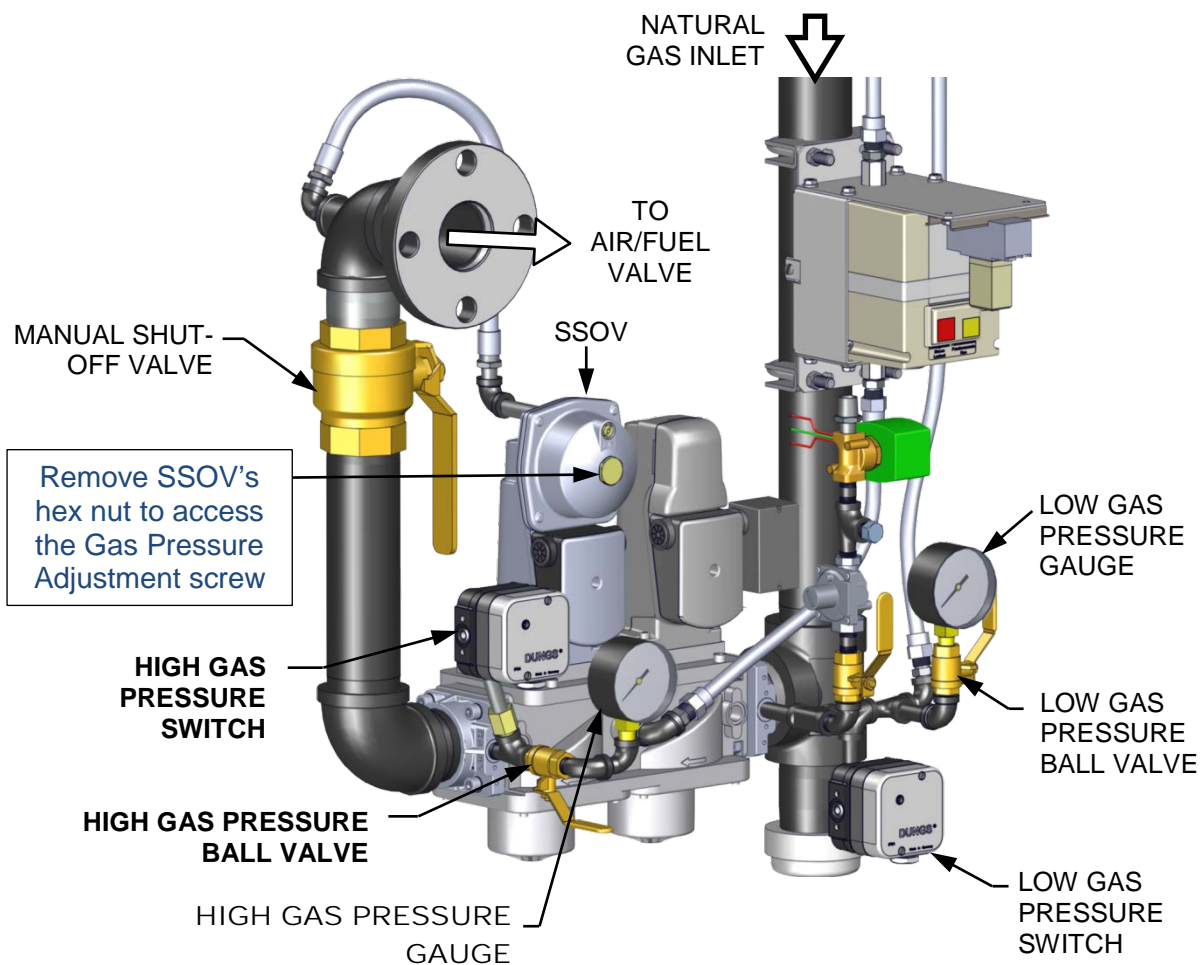

Figure 5-4: BMK 3000: HIGH Gas Pressure Test Components
To simulate a high gas pressure fault, refer to Figure 5-4 and perform the following steps:
4. Open the the external manual gas shut-off valve (external to the unit, not shown in Figure 5-4, below).
7. Slowly increase the manifold gas supply pressure by turning the downstream SSOV's Gas Pressure Adjustment screw (see Figure 5-4) while reading the CO level on the combustion analyzer while keeping track of the number of turns of the screw (you will turn it back to its original position in Step 10, below). Adjust the manifold pressure until the CO reading is **approximately 300 ppm** or the value calculated in step 2 is reached.